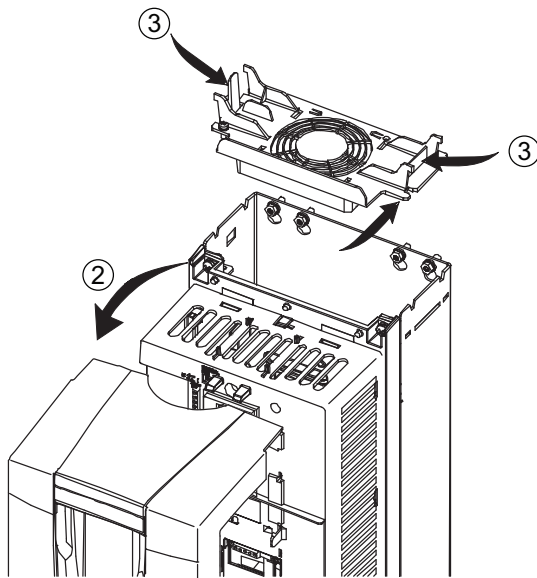

Fig. 40 — Remove Top Cover on AHC550 VFD
3. Press together the retaining clips on the top cover and lift (see Fig. 40).